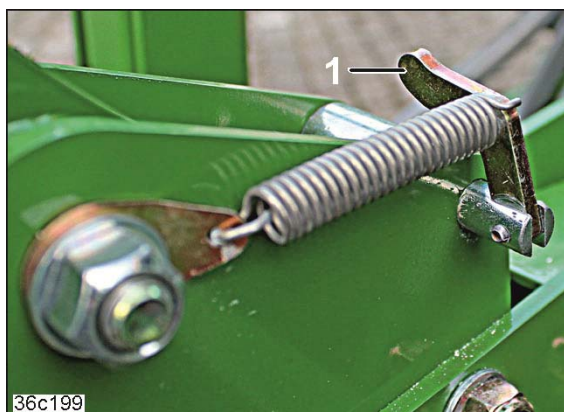

Fig. 148
3. Swivel the handle (Fig. 148/1) up.